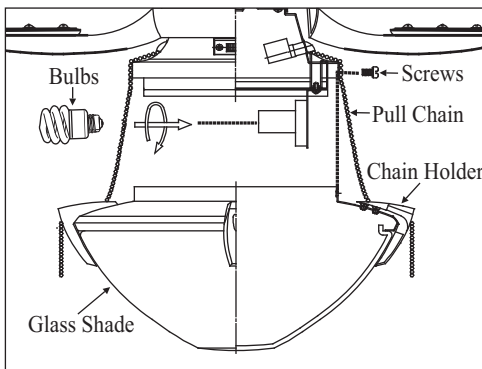

Figure 18
3. Pass the two pull chains on the switch housing through the chain holders located on the light fitter, install the fobs to the pull chains. (Fig. 18)
4. Install 2x13W (Max.) bulbs (provided) and glass shade with four thumb screws, do not over tighten. (Fig. 18) **NOTE:** CFL bulbs are **NOT** dimmable.